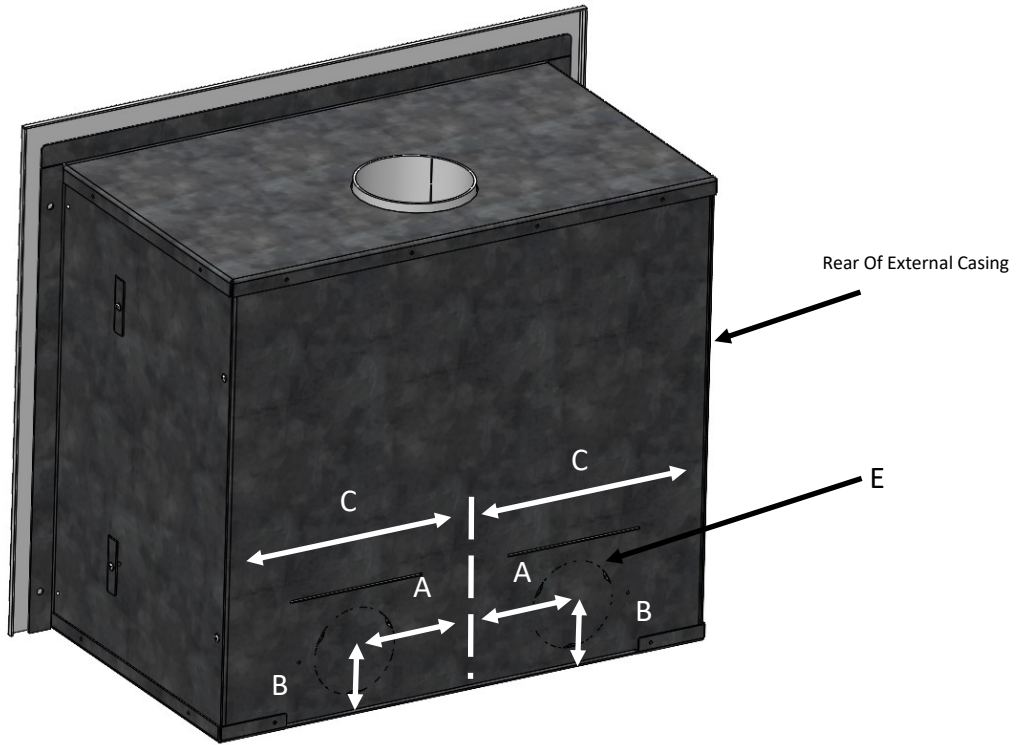

Fig. 4. Rear Direct Air Location
- OPTION 2: Outside air, where by external ventilation air supply will enter the appliance via a direct duct on either the rear or underside of the appliance outer skin, there by negating the air supply from the room. (See Fig. 4 & 5).